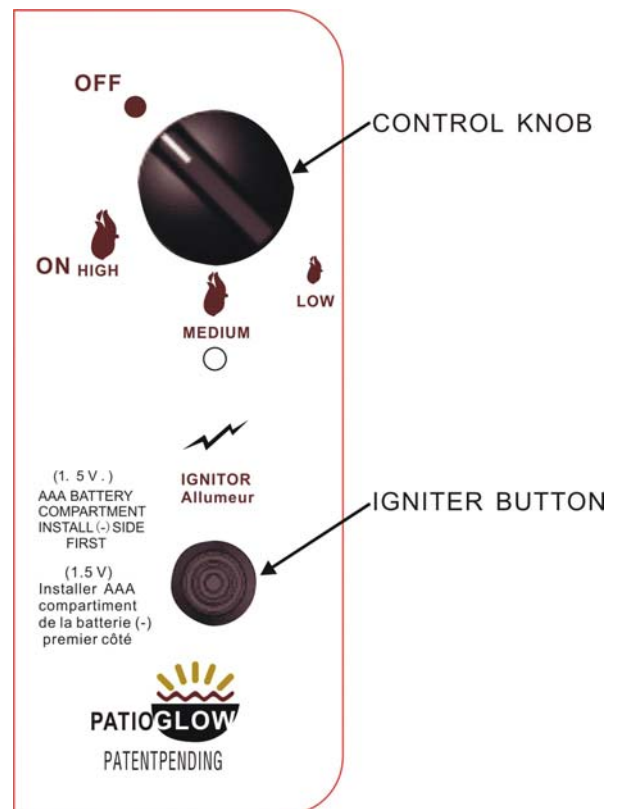

Figure 12
1. Open the tank drawer and find the control panel on the left. Make sure the control knob is in the "OFF" position. See Figure 12. Open the tank valve all the way.
2. Push in the igniter button. You will hear a slight clicking sound. With the igniter button pushed in, push and turn the control knob to the "ON" position. The fire should light within a few seconds. Once the flame is lit, release the igniter button and continue to hold the control knob in for 10 to 15 seconds. Release the control knob. The control knob should pop back out and then the fire remain lit. Note: If the fire does not light, turn the knob to the "OFF" position and wait five (5) minutes before trying again.